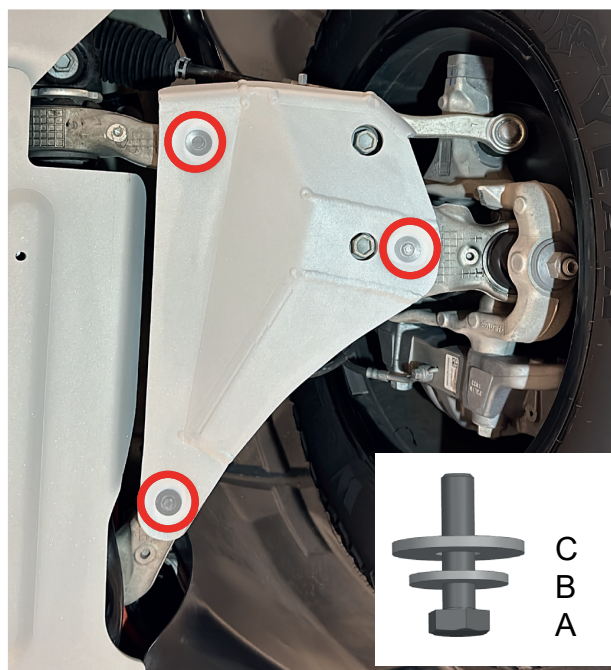

Fig. 2
2. Install the left front control arm skid plate (item 1) using M6x25 bolts with M6 & M8 washers (item A,B,C) as shown in in fig.2.